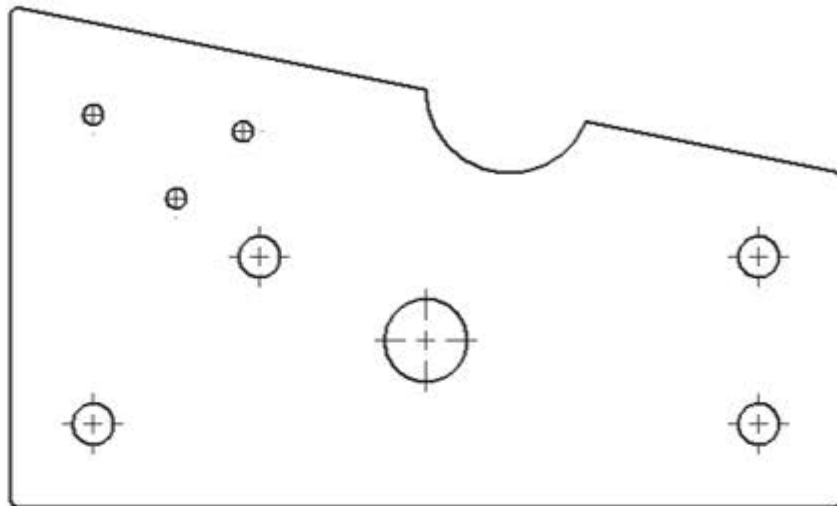

Figure 27–63
5. Which command is used to automatically place center marks on all holes in a view, as shown in Figure 27–63?